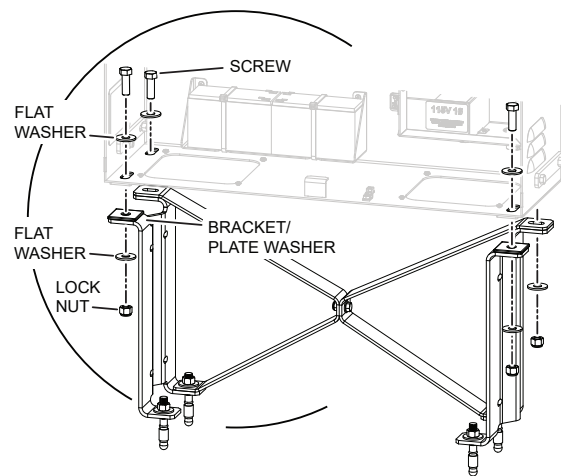

Figure 5. SlideSmartDC HD to Base Riser
6. With assistance, lift, set, and align gate operator on top of brackets. See Figure 5.
7. Secure the operator to the brackets using a bolt (4), flat washer (8), and lock nut (8). See Figure 5.